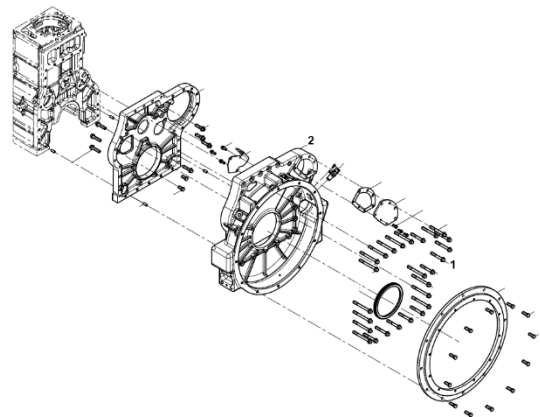

Figure 85.
- 3. Loosen and remove the flywheel housing bolts (Figure 85, Item 1).
- 4. Remove the flywheel housing (Figure 85, Item 2).
- 5. Remove the Rear oil seal (Figure 85, Item 3) from the rear oil seal seat.